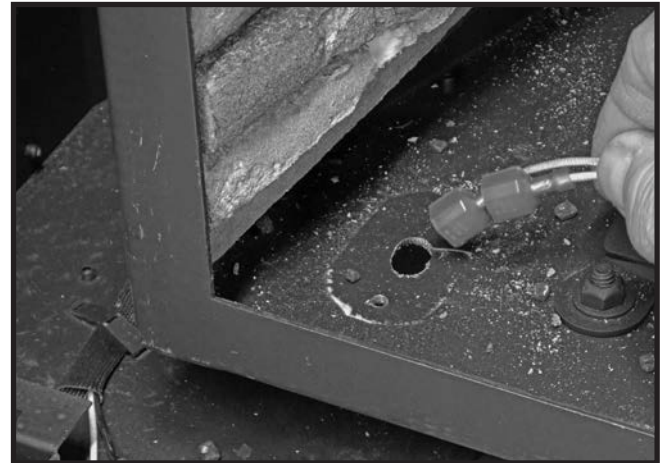

Figure 60: Feeding wires through burner plate.
2. Before placing the burner tray in its final location, feed the two wire leads from the burner tray in through the hole at the lower left corner of the firebox floor (Figure 60).
3. Connect the wire leads from the burner tray to the wire connectors located on the firebox floor (Figure 60).